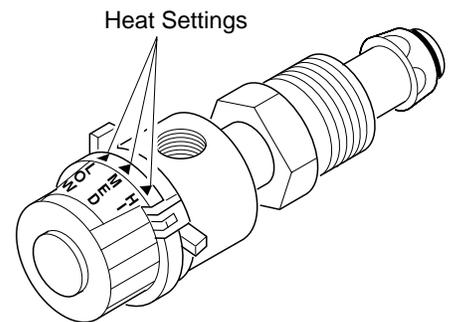

Figure 5 - Heater Regulator
8. When burner remains lit, you can turn the heater regulator knob clockwise to the desired heat setting (see Figure 5). If burner goes out, turn off gas. Turn regulator knob fully clockwise to “OFF.” Check fuel supply. If fuel supply is OK, restart heater.